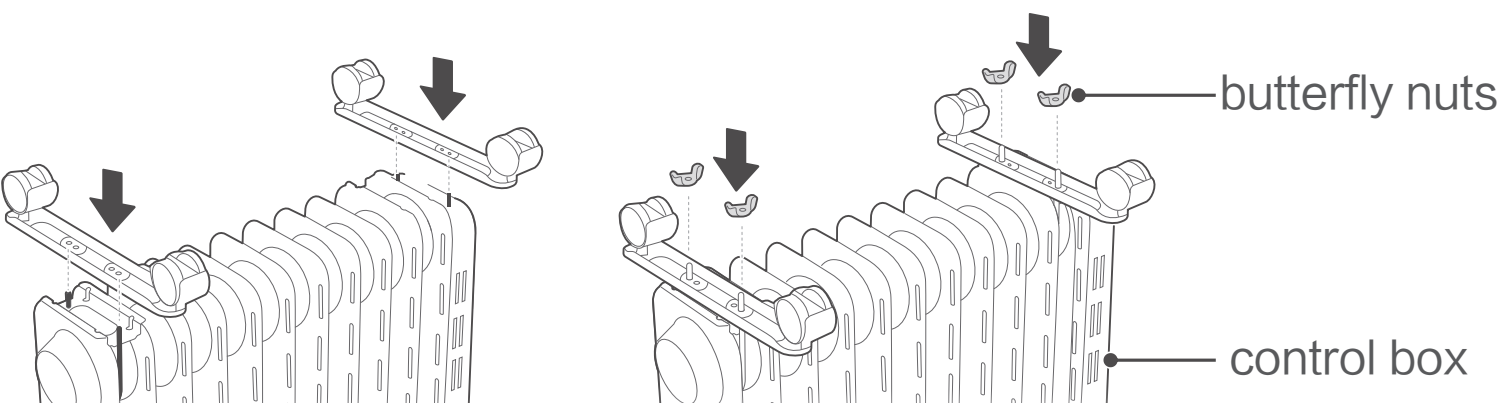

figure 1
- As shown in figure 1, align the mounting hole of a set of caster assembly and install it on the screw of the caster pad plate at the end of the radiator fin, and The other caster assembly is aligned to the screws mounted at the bottom of the control box.